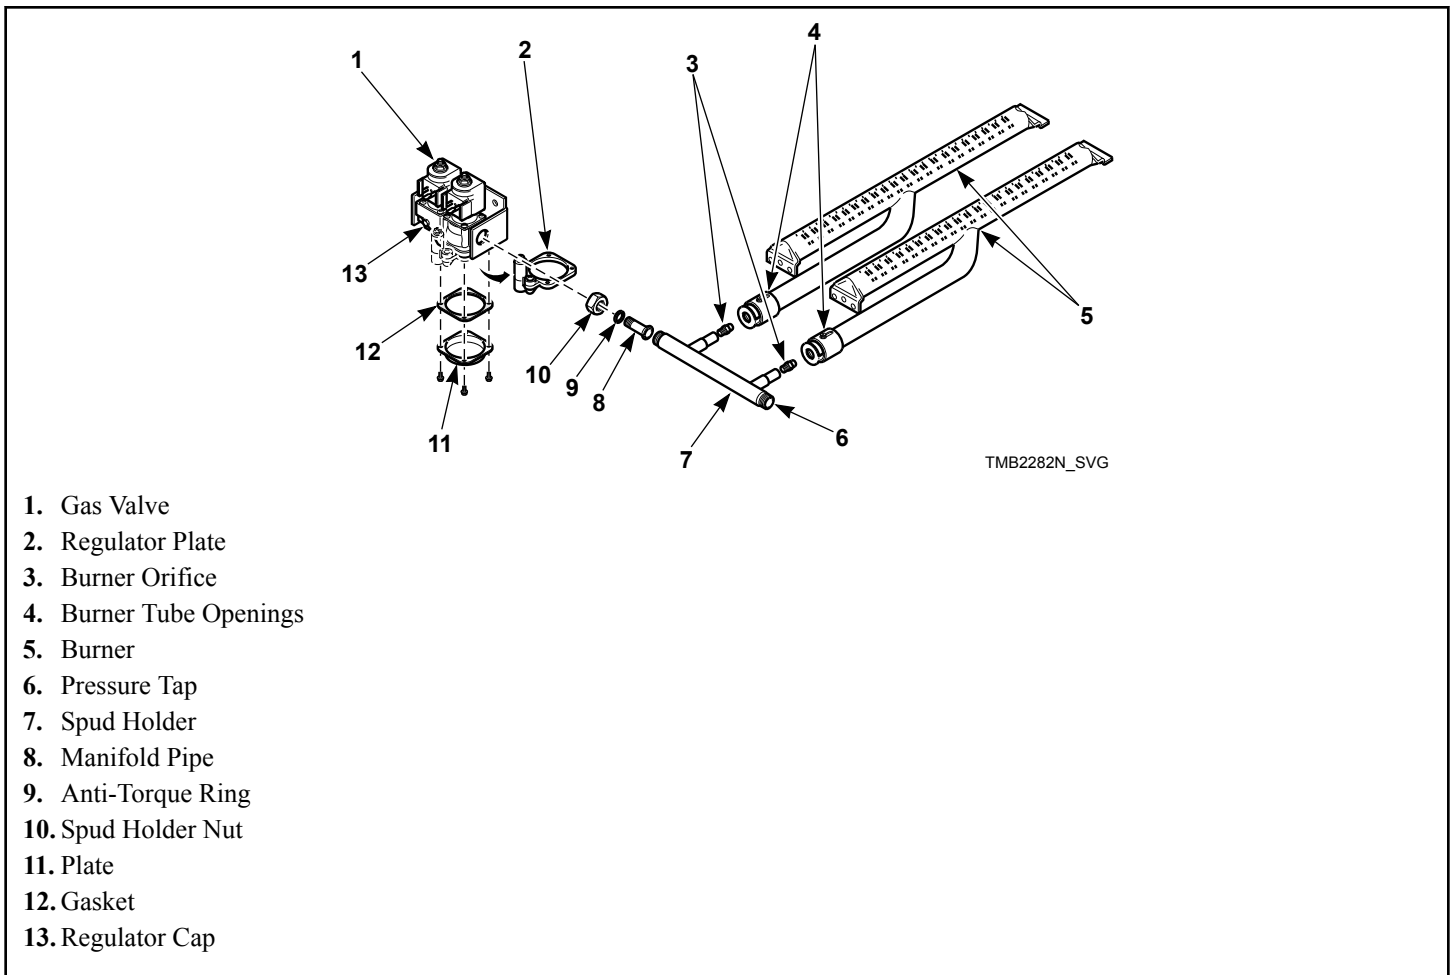

Figure 16
2. Remove spud holder. Unscrew spud holder nut near gas valve. Remove the burner orifice(s) from spud holder. Refer to *Figure 16* .